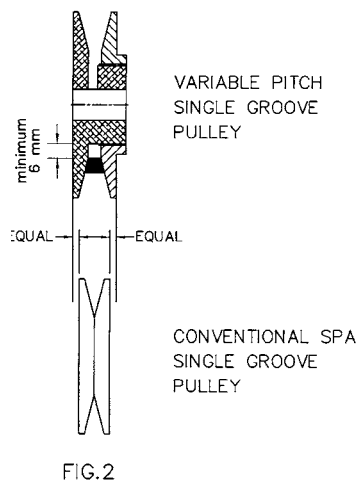

FIG.2
6. Re-align the belts using the pulley faces as a guide, refer note and figure 2 below in troubleshooting guide
Be careful not to slow the fan down too much. Rotating the moveable flange anti-clockwise too far will "bottom" the belt and it will not sit properly in the groove. This will cause rough running and early belt failure. Also the moveable flange will only be held on by a thread or two. A minimum clearance of 6 mm is required between the bottom of the cog belt and the bottom of the pulley groove. See figures 2 and 3.
Single and Double groove pulleys should be aligned using the outside faces, noting that the variable pitch pulley faces will most likely be wider than the standard fixed pulley, allowance should be made for this so that the belt/belts, is/are centralised (see figures 2 and 3). ENSURE MOTOR AND FAN SHAFTS ARE PARALLEL.